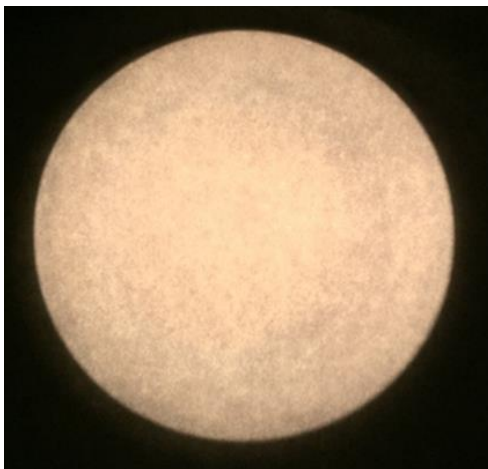

Figure 40: The light output of a properly aligned QTH lamp.
18. Move the lever so that it rotates about the cylindrical condenser lens assembly until the light on the backdrop becomes uniform and circular as seen in Figure 40. This is done by defocusing the beam, or moving the adjustment lever to what is usually its farthest position from the lamp housing.
19. Tighten the adjustment knob to lock it into position when the image seen on the backdrop matches Figure 40. If there are any dark spots or inconsistencies in brightness, repeat steps 7 through 13 for QTH lamp alignment.